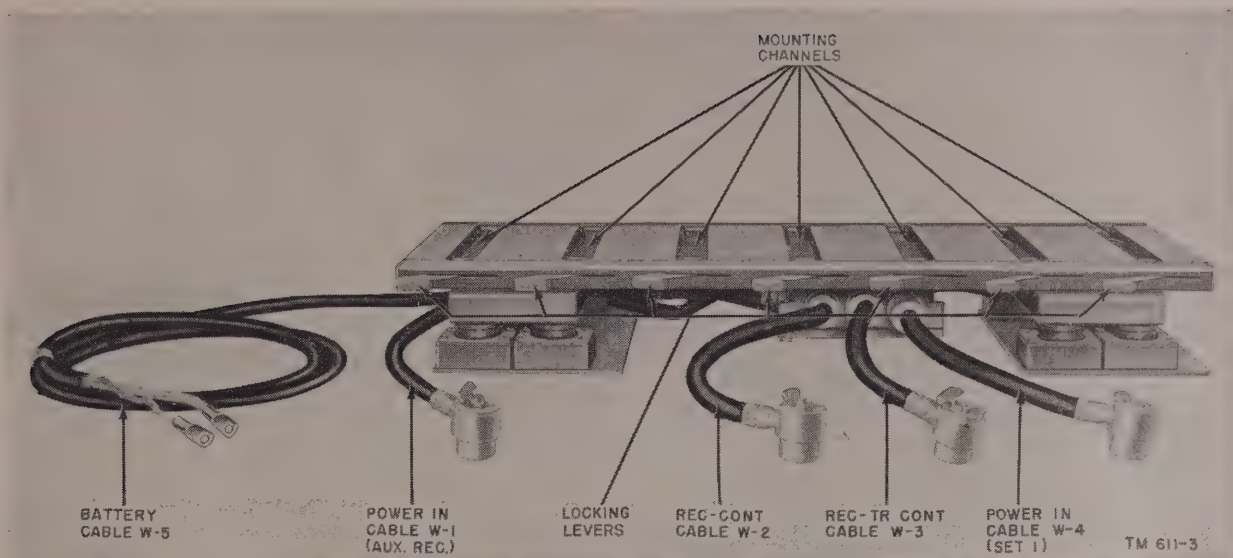

Figure 8. Mounting MT-327/GR, top view.
e. In vehicular installations, the receiver-transmitter is installed on Mounting MT-327/GR (fig. 8) and is powered by a vehicular power supply, such as Power Supply PP-112/GR. Auxiliary operation of the receiver-transmitter (ch. 6) is possible through use of a battery box and/or a hand generator.
a. Mounting MT-327/GR (fig. 8) serves as a support for the major units of the radio sets, and as a junction box for interconnecting the various units.
b. At either end of the mounting are two shock-mounted supports which are normally bolted to the vehicular mounting surface. A mounting table is secured to these supports, and a junction box is suspended from the under surface of the table near the center of the unit (fig. 8).